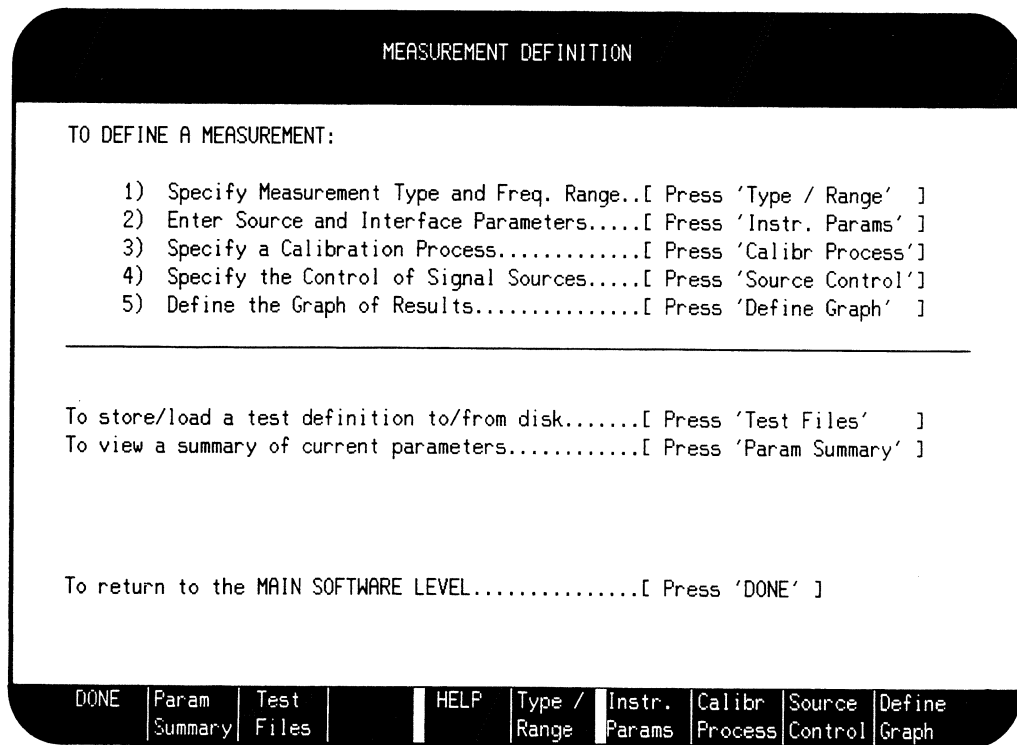

Figure 3-9. Measurement Definition Menu
5. On the HP 3048A press the Define Msrmt softkey to obtain the Measurement Definition menu. Refer to figure 3-9.